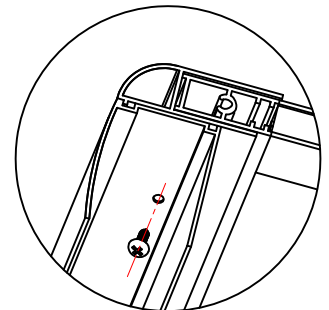

Fig.5
- (Fig.5) By drilling through profile into joiner. Drill carefully, Don't damage profile. Insert screws and decorative covers.